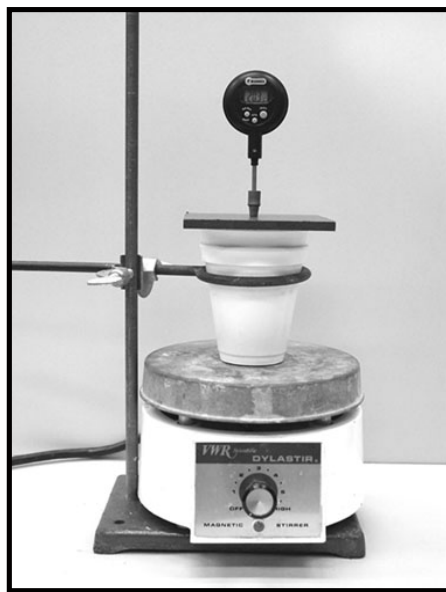

Fig. 1. Experimental set-up of a “coffee-cup calorimeter”
Precision calorimeters are very expensive and extremely tedious to use. Therefore, in this experiment we will use a simple “coffee-cup calorimeter.” The coffee-cup calorimeter, as shown in Fig. 1 below, consists of two expanded polystyrene (Styrofoam™) cups, nested together (one inside the other). The cups are stabilized with a ring on a ring stand and are covered with a 10-cm square piece of fiber board with a small hole in it, through which the probe of a digital thermometer is inserted. A Teflon™-coated magnetic stir bar inside the inner cup allows
4. Assemble the coffee-cup calorimeter as shown in Fig. 1, being careful not to spill any of the previously weighed water. Start the stirrer motor, and adjust the speed to obtain vigorous stirring without splashing. Record the temperature of the water in the polystyrene cup just prior to adding the sample of potassium nitrate (next step). This is the initial temperature,  $T_i$ .
2. Assemble the coffee-cup calorimeter as shown in Fig. 1, and place the stir bar in the inner cup.
5. Assemble the coffee-cup calorimeter as shown in Fig. 1, being careful not to spill any of the previously weighed hydrochloric acid solution. Start the stirrer motor, and adjust the speed to obtain vigorous stirring without splashing. Record the temperature of the hydrochloric acid solution in the polystyrene cup just prior to adding the sample of magnesium (step 6, below). This is the initial temperature,  $T_i$ .